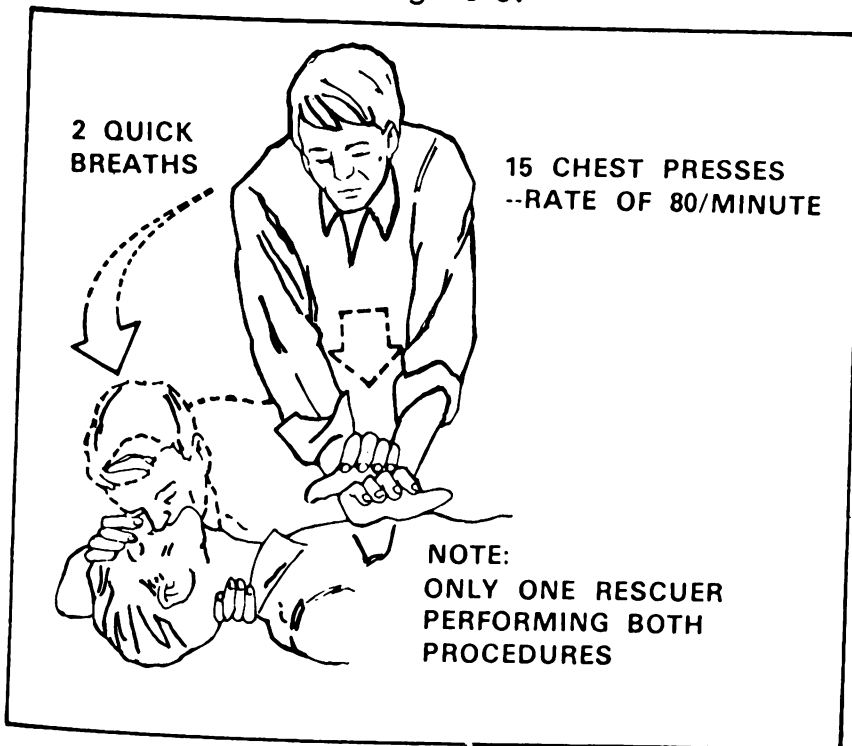

Figure 4.
13. Place your hands over the bottom of the breastbone as shown in figure 4.
14. Place your shoulders directly over the soldier's breastbone, your arms straight with your fingers raised off the chest, and push straight down (figure 4).
16. After every 15 chest presses, blow two full, forceful breaths into the soldier's mouth as shown in figure 4. Allow the soldier's head to fall after each breath.